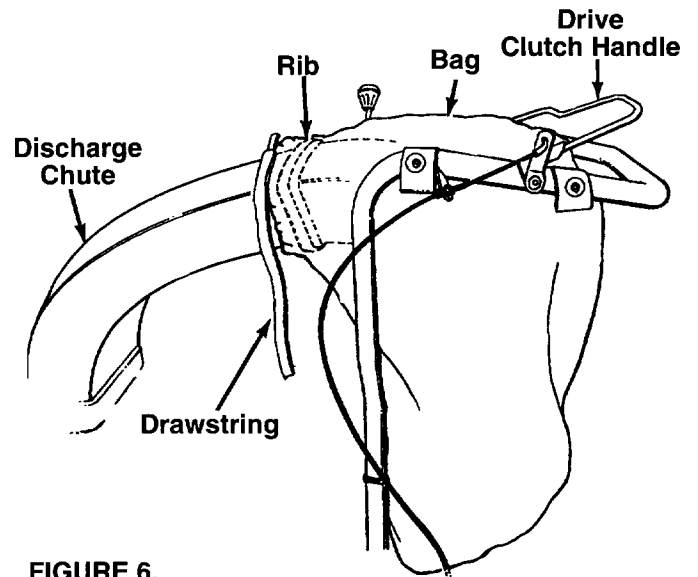

FIGURE 6.
- Place bag inside the handle assembly. Slip the opening on the bag over the discharge chute. Make sure that it is over the rib on the discharge chute. See figure 6.